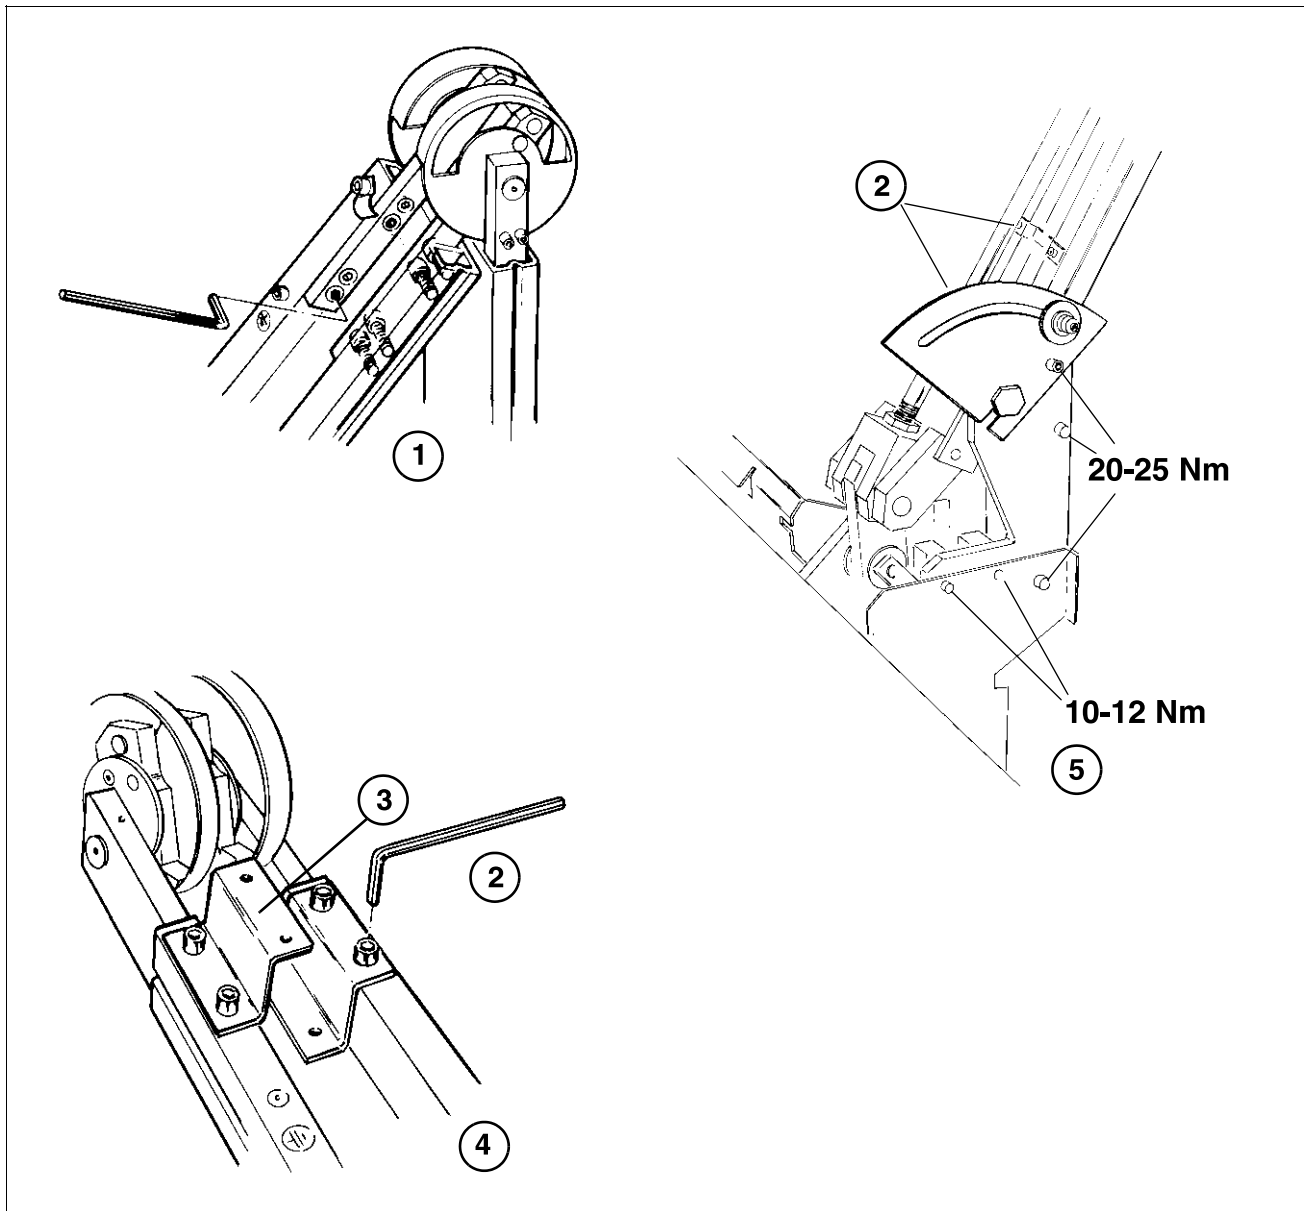

Fig. 12:
- Check that all the screws and lock nuts on the arm system are tightened securely (Fig. 12 / p. 34).